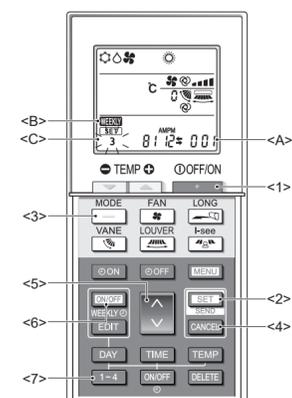

Fig. 5-1
5.1. Switching to the function setting mode (Fig. 5-1)
- Perform the procedure in 5.1., and then press the **EDIT** button <5> for 5 seconds or more. (Fig. 5-1)
5.5. Completing the settings (Fig. 5-1)